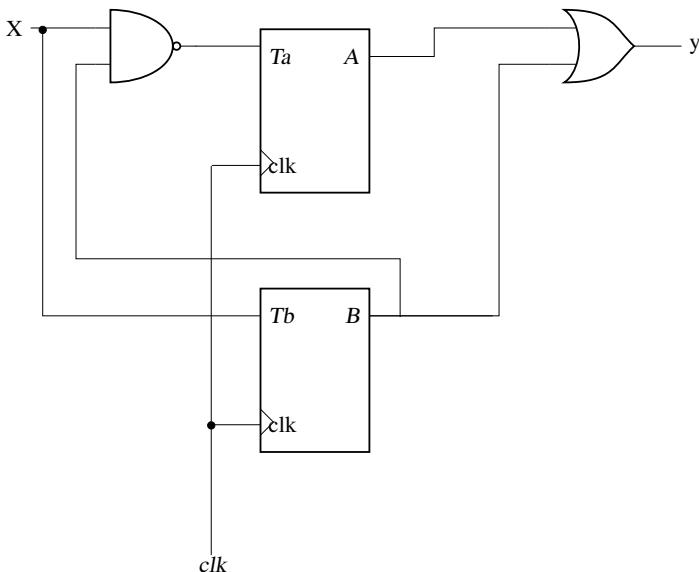

Fig. 5.21
21. Two T-flip flops are interconnected as shown in Fig. 5.21. The present state of the flip flops are: A = 1, B = 1. The input x is given as 1, 0, 1 in the next three clock cycles. The decimal equivalent of $(ABy)_2$ with A being the MSB and y being the LSB, after the 3_{rd} clock cycle is _____. (GATE IN2020 – 40)